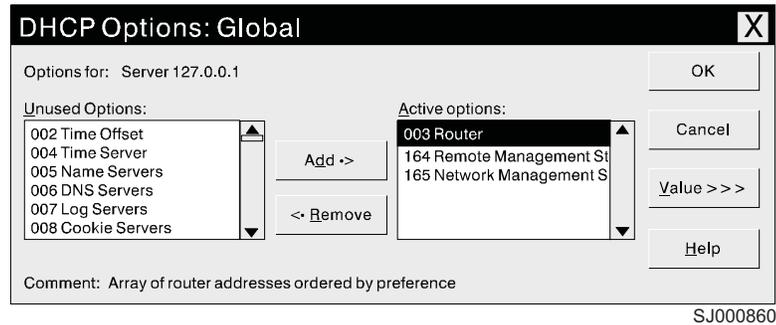

Figure 12. DHCP Options: Global window
- a. Click **DHCP Options** → **Global**. The DHCP Options: Global window opens, as shown in Figure 12.